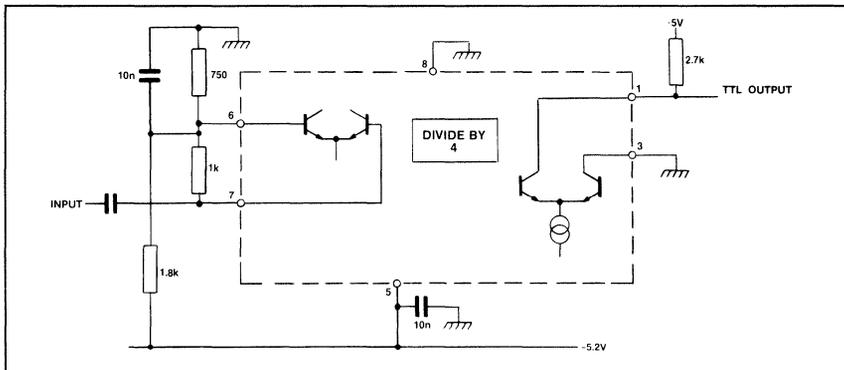

Fig.6 Typical application showing interfacing
1. The signal source can be capacitively coupled to the clock input if input bias is provided (See Fig.6) but is normally directly coupled with ECL II levels. The inputs can be operated either singly or with double complementary input drive.
2. The outputs are in the form of complementary free collectors with 1.6mA available from them over full military temperature range (A grade). The outputs can be interfaced to ECL or Schottky TTL as shown in Figs.6 and 7. Interfacing to TTL at frequencies above 20MHz requires low capacitance interconnections and the use of Schottky TTL.